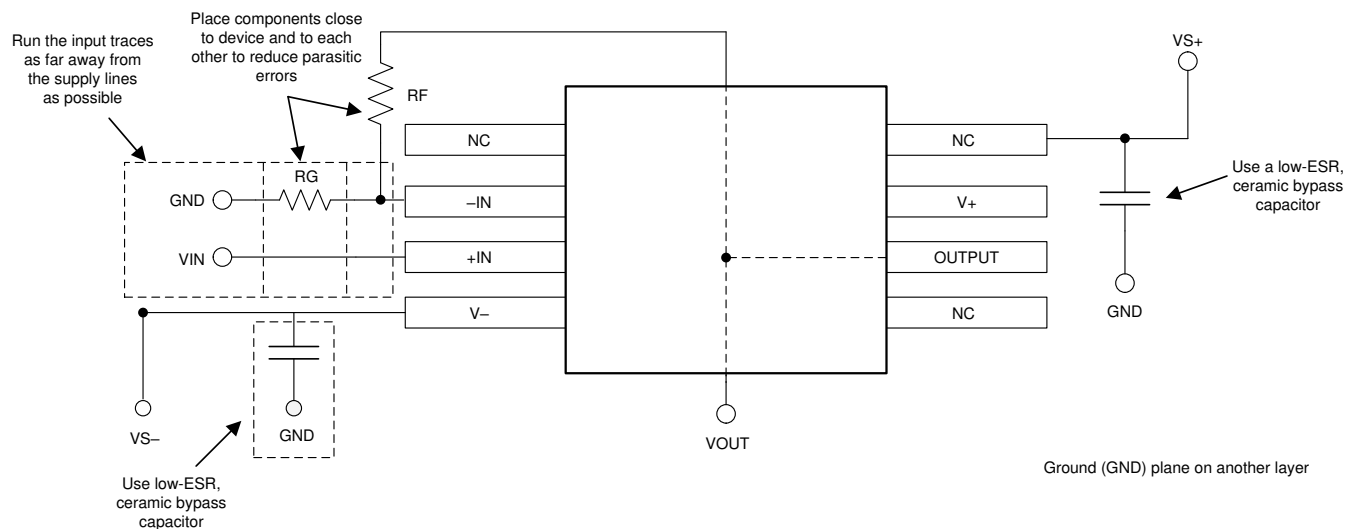

Figure 7-8. Operational Amplifier Board Layout for Noninverting Configuration
- Place the external components as close to the device as possible. Keeping RF and RG close to the inverting input minimizes parasitic capacitance, as shown in Figure 7-8.